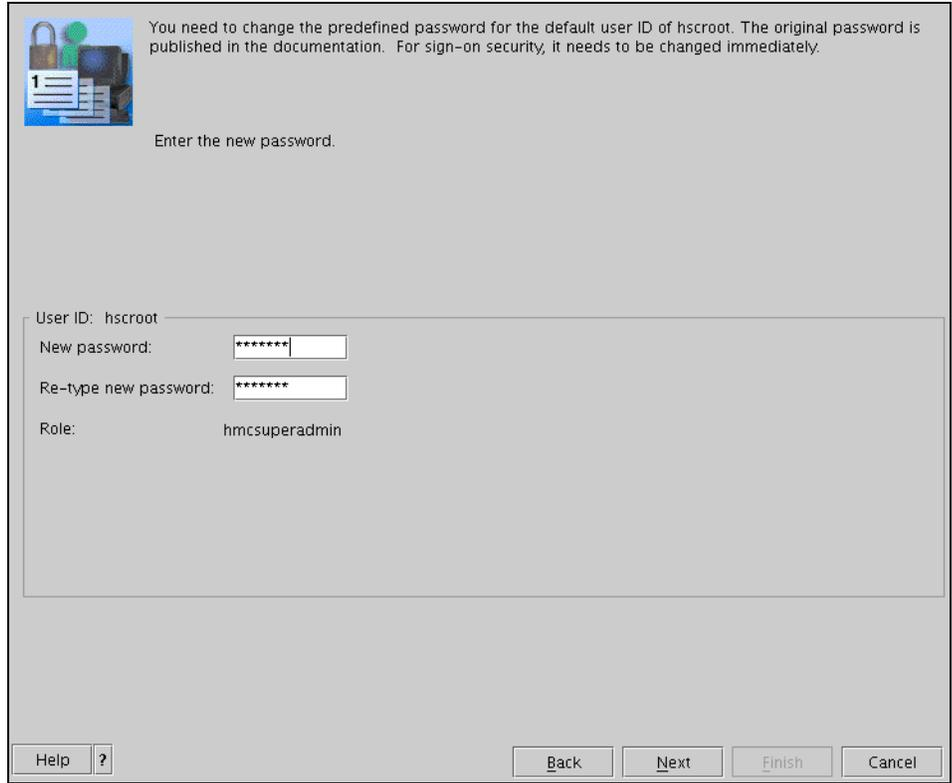

Figure 4-6 Guided Setup wizard - Change hscroot password
- The Guided Setup Wizard - Change hscroot Password panel is now displayed as shown in Figure 4-6. Enter the current *hscroot* password (normally this should be the default password of *abc123*) and then the new password you would like. The hscroot user ID is the i5/OS QSECOFR equivalent profile for the HMC, this user ID has full rights to all functions available on the HMC.